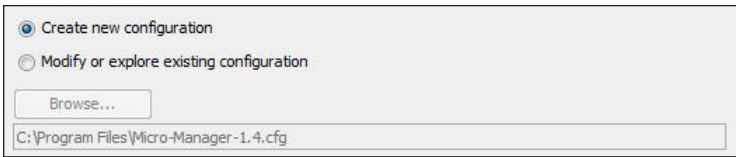

Fig. 12–First select the *Create new configuration* radio button.
- To add the camera, search for the **Usb3-CAM-HS** folder in the list of **Available Devices**. Open the folder and select **USB3-CAM-HS | World Precision Instruments camera**. Click **Add**. (Fig. 12). Click **Next**.